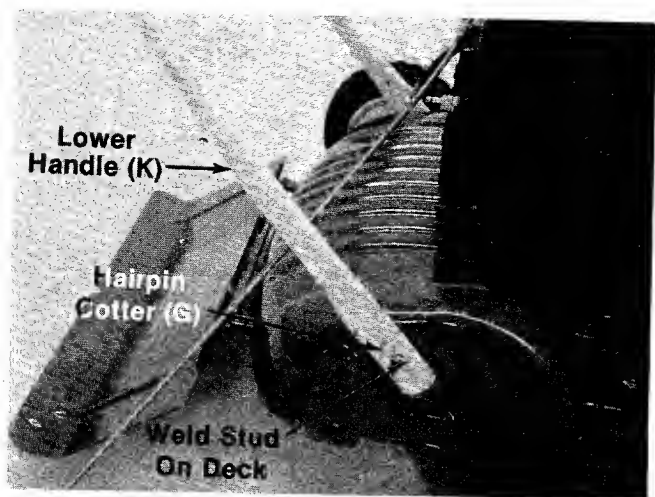

FIGURE 4.
7. Place the **upper slotted hole** in lower handle (K) over studs located in front of each rear wheel. Secure with hairpin cotter (G) provided in hardware pack. See figure 4.
Figure 4 was photographed with the rear wheel removed for clarity. It is not necessary to remove wheel for handle assembly.